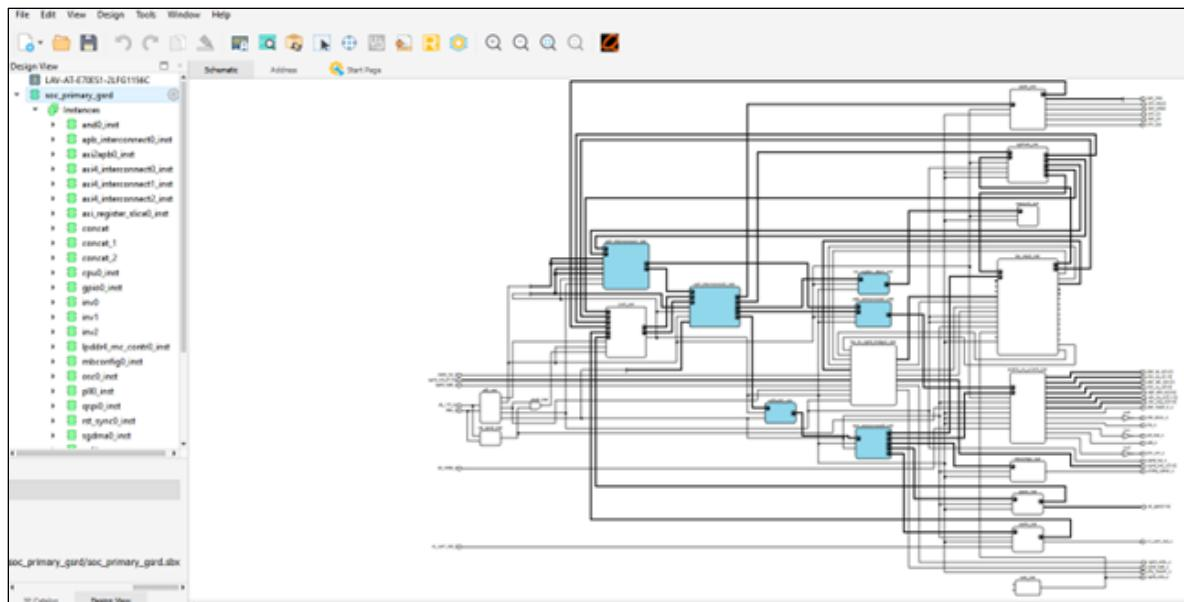

Figure 8.39. Propel Builder SoC Project
2. The Primary GHRD SoC opens as shown in Figure 8.39.